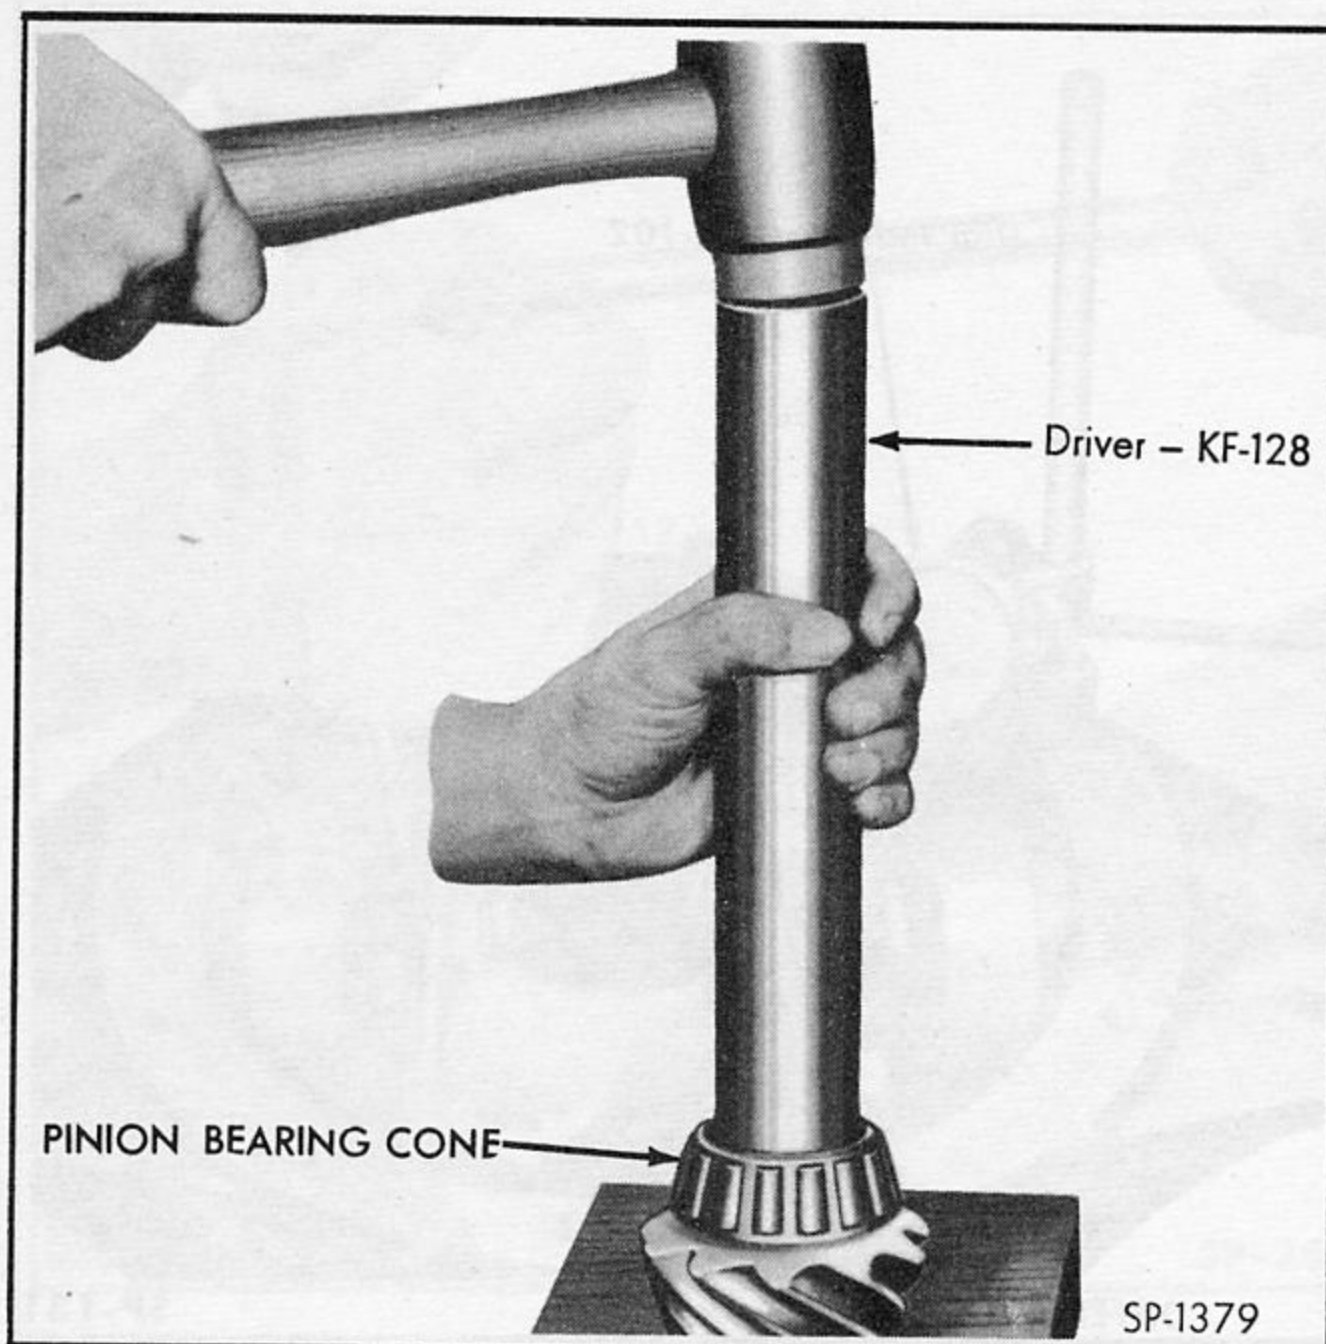

Fig. 182—Installing Pinion Rear Bearing Cone
5. Assemble pinion rear bearing cone on drive pinion shaft using Pinion Bearing Driver KF-128 (Fig. 182). Lubricate bearing cone with a medium weight grease.